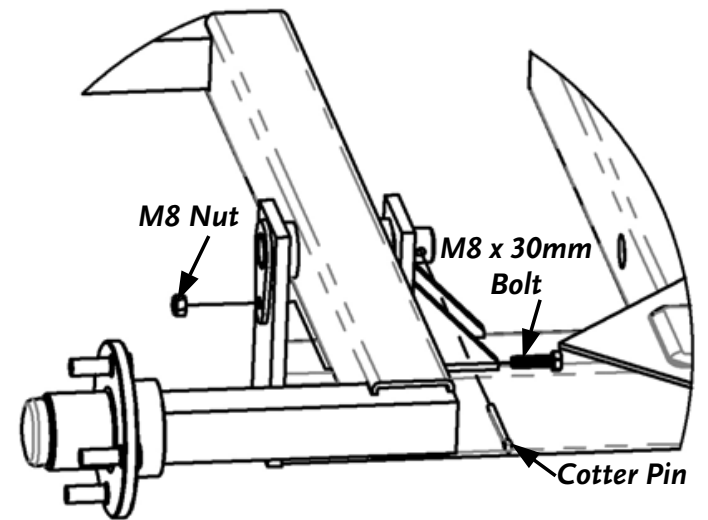

Figure 7
3. Insert a M8 x 30mm Mounting Bolt (**Figure 7**) from the inside of the Frame and through the Tab on the Axle Pivot Pin. Install a M8 Flange Nut and tighten with a 12mm Socket, holding the Bolt with a 13mm Wrench.
4. Insert a Cotter Pin (**Figure 7**) through the Left and Right Axle Pivot Pins and bend the legs over with Pliers.